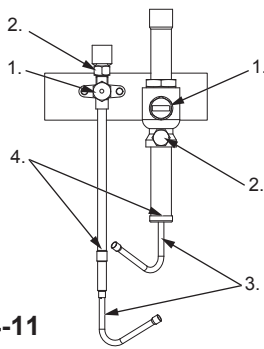

Fig. 4-11
4.5. Installing the refrigerant piping (main pipe) (Fig. 4-11)